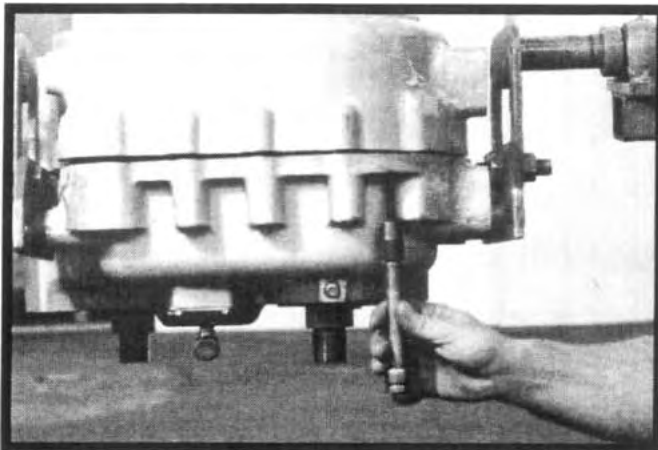
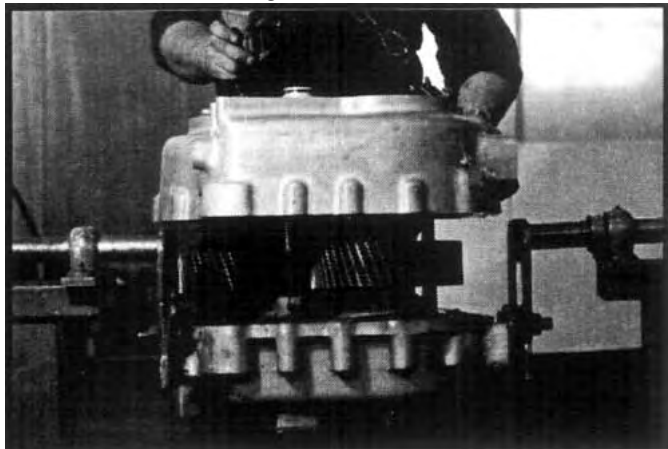

Figure 4.5
Figure 4.6
11. Separate the housing halves. If difficulty is encountered, temporarily install 3/8-16 bolts into the two tapped holes in the front housing half to force the housing halves apart. See Figure 4.5. Lift the rear housing half clear. Discard the housing gasket. See Figure 4.6.